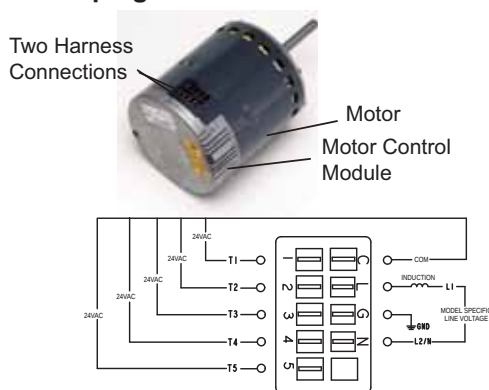

Figure 15.
- 3 - Unplug the two harnesses from the motor control module. See **Figure 15**.
6. Move gas valve switch to OFF. See Figure 15.
8. Move gas valve switch to **ON**. See Figure 15.